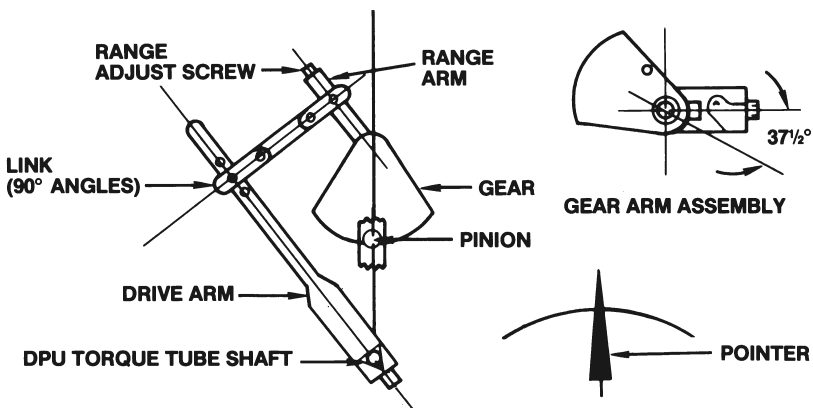
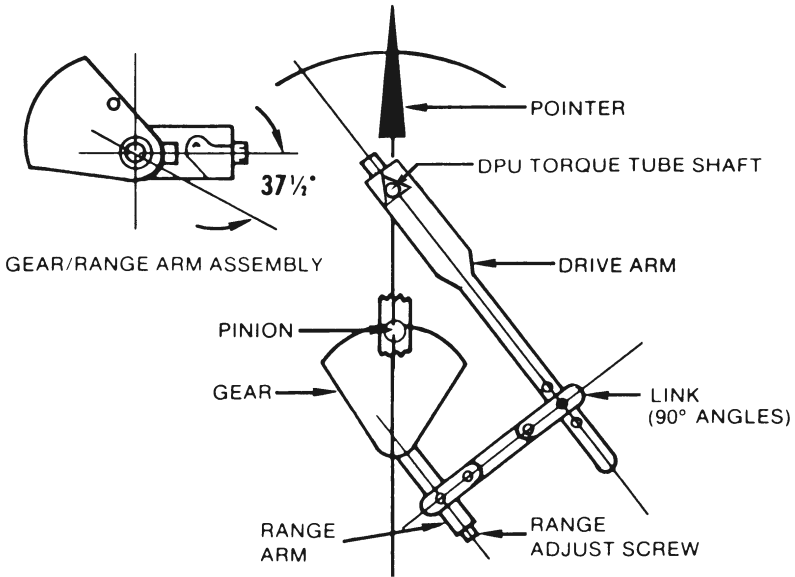

Figure 3-2. (Standard) Range/Linearity Adj. (50% DP)
Figure 3-3. (Inverted) Range/Linearity Adj. (50% DP)
2. Attach linkage between drive arm and movement. See Figure 3-2 (standard 227A/C) or Figure 3-3 (Inverted 227A/C) for linkage alignment at 50% DP. Inspect parts for straightness and pivot-fit without binding.